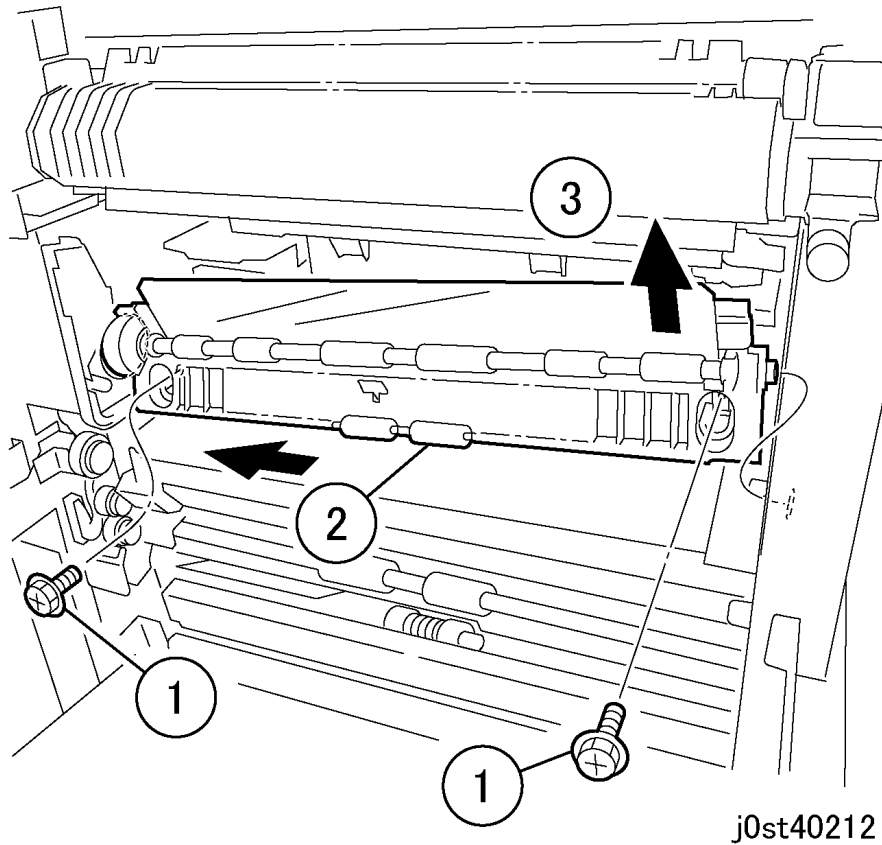

Figure 1 Setting free the Registration Assembly (j0st40212)
2. Free the Registration Assembly. (Figure 1)